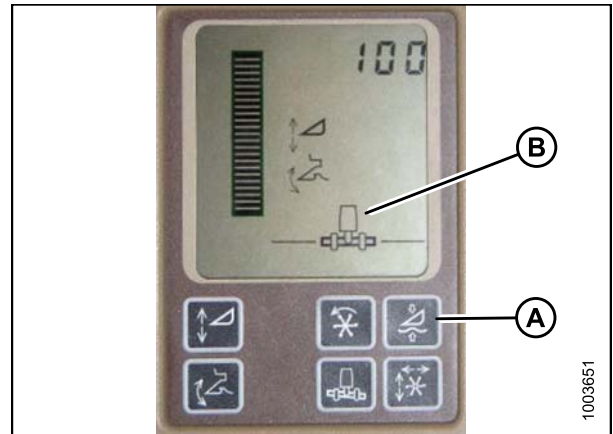

Figure 6.122: John Deere Combine Display
Do **NOT** use the active header float function (A) in combination with the MacDon auto header height control (AHHC)—the two systems will counteract one another. The header symbol (B) on the display should NOT have a wavy line under it and should appear exactly as shown on the Active Header Control Display in Figure 6.122: *John Deere Combine Display*, page 201.